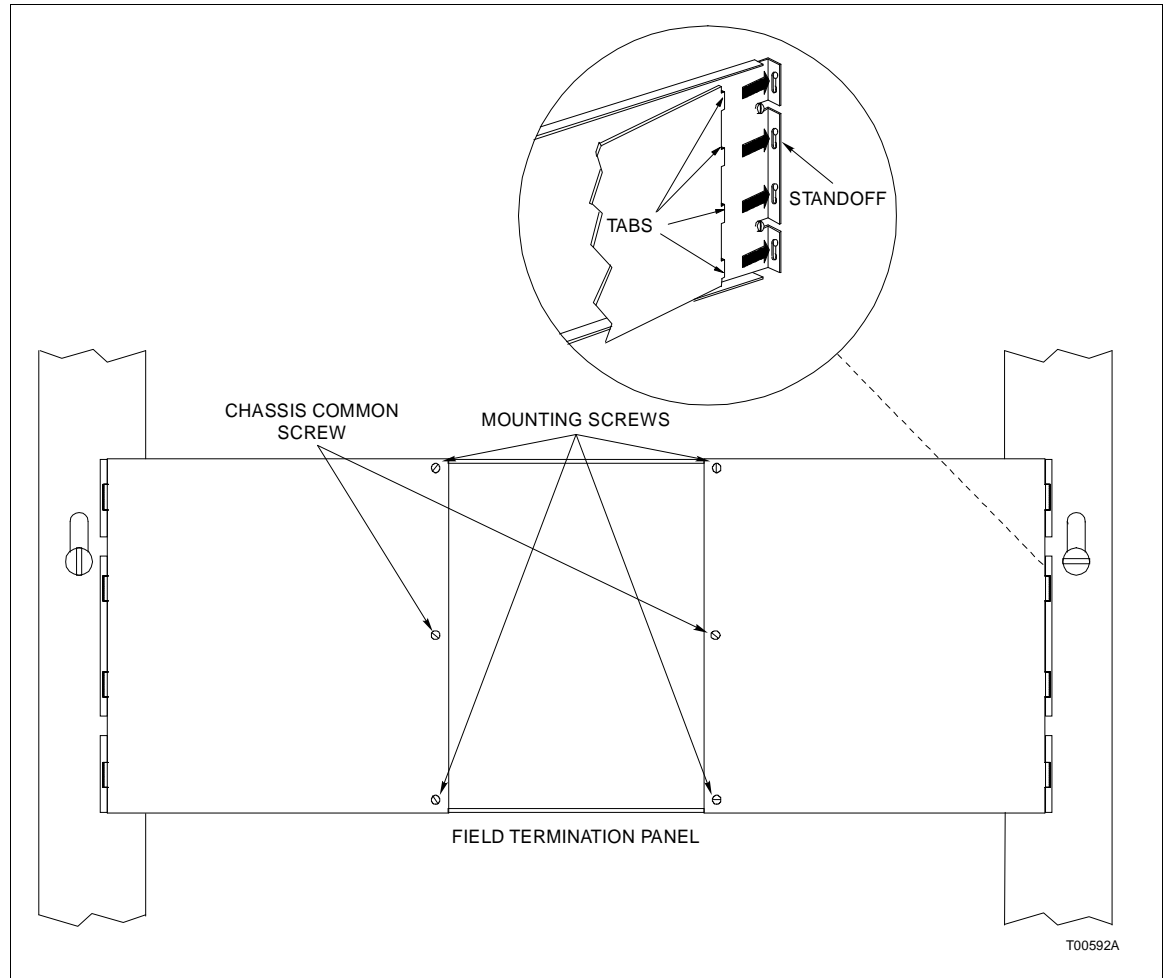

Figure 2-12. Mounting and Securing the Termination Unit on the Field Termination Panel
1. Insert the tabs of the circuit board into the proper slots of the termination panel standoff as shown in Figure 2-12 and slide the circuit board into position.
2. Secure the termination unit circuit board to the field termination panel with two number 10 self-tapping screws (Figure 2-12).